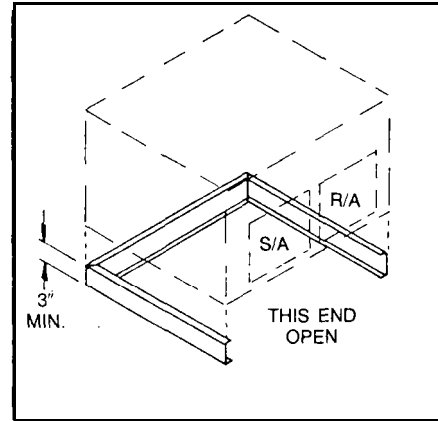

FIGURE 4. Flat Roof Installation when roof curb is not used. 3" minimum steel rails.
3. The unit should be placed on a solid and level platform of adequate strength. The mounting structure must be constructed as to support the unit a minimum of 3" above the roof deck. An angle iron stand of proper strength may be used to provide level support for the unit. See figures 4, 5 and 6.
3. Unit is design certified for application on combustible flooring with 3" minimum clearance. See Figure 4.